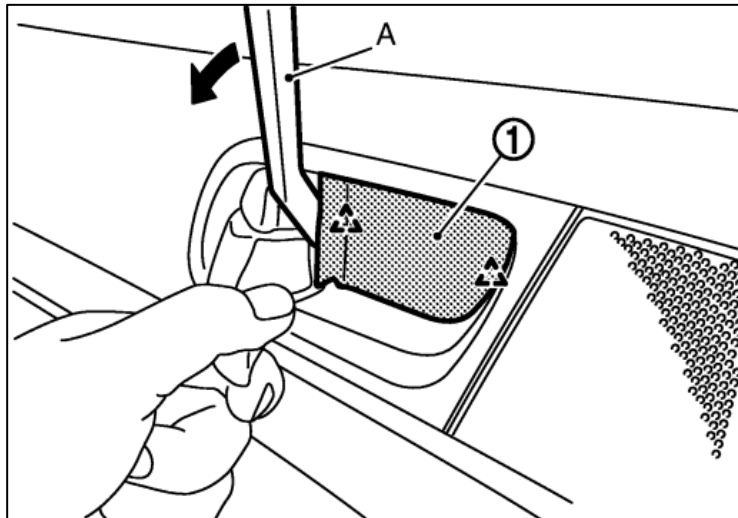

Figure 65
2. Behind the Door Handle, remove the small Trim Piece using a Trim Removal Tool. *Figure 65.*